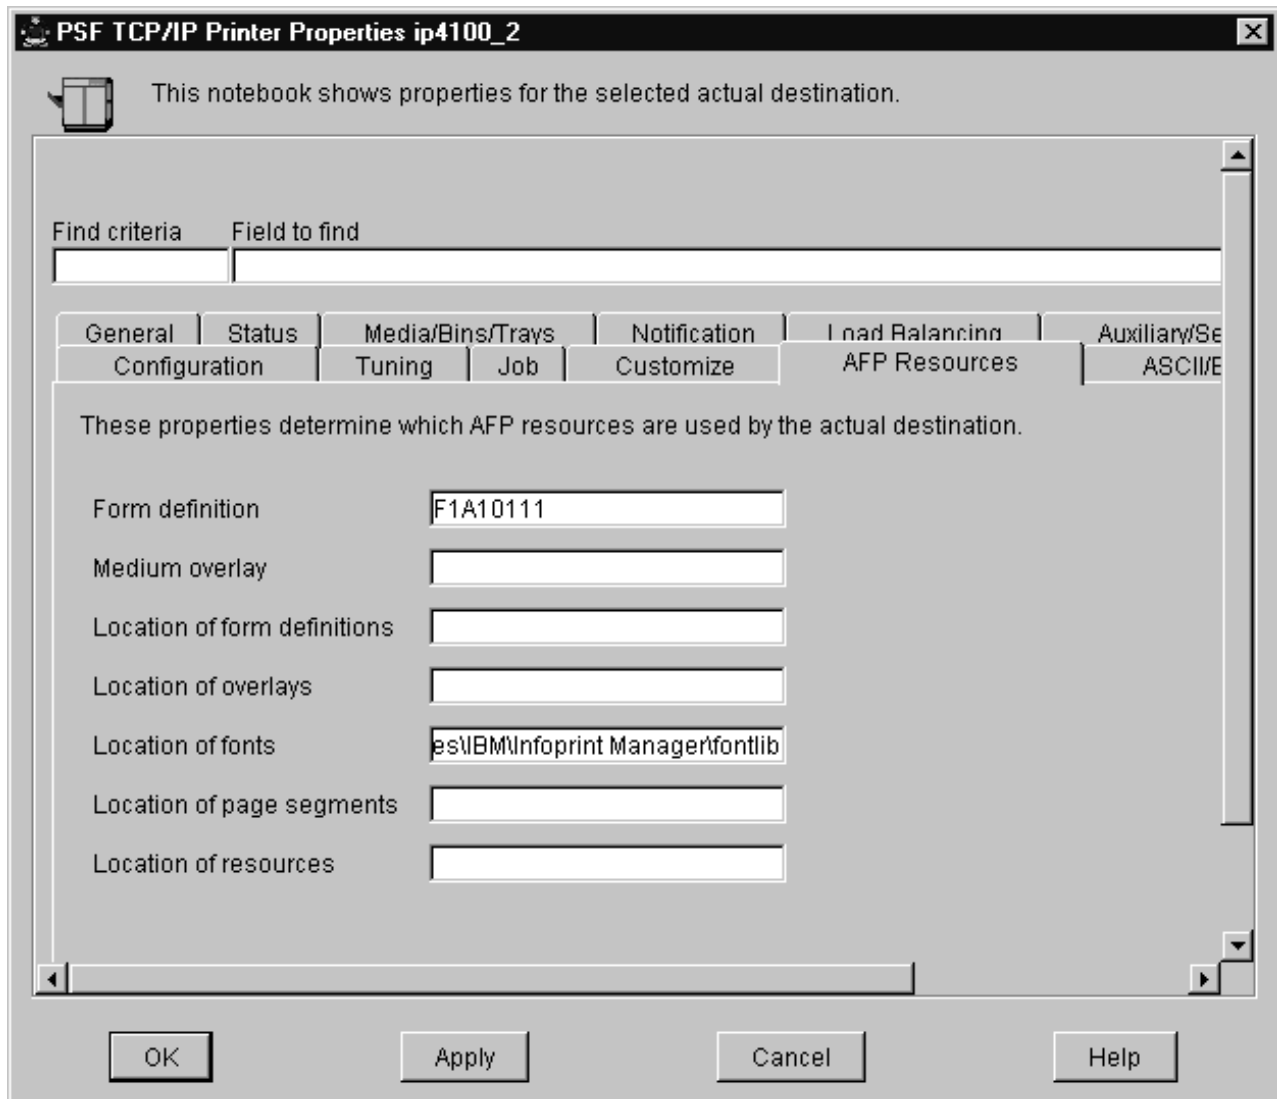

Figure 59. Printer Properties window for specifying the Fonts Path on Windows.
- `install_path\fontlib` in the **Location of fonts** field, as shown in Figure 59 on page 138 on Infoprint Manager for Windows